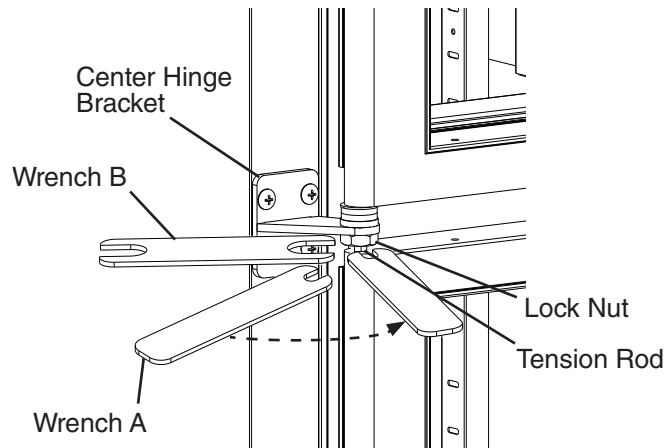

**Fig. 68**
- 22) Level the doors. If the doors are out of level, loosen the backer plate of the appropriate hinge bracket, slide the backer plate to the left or to the right, then tighten the slide pin and bottom hinge bushing with a wrench until it is tight. See Fig. 68. Next, mark a reference line on the bracket and fitting then tighten the fitting an additional 1/8 turn. Do this for both the upper and lower hinge.